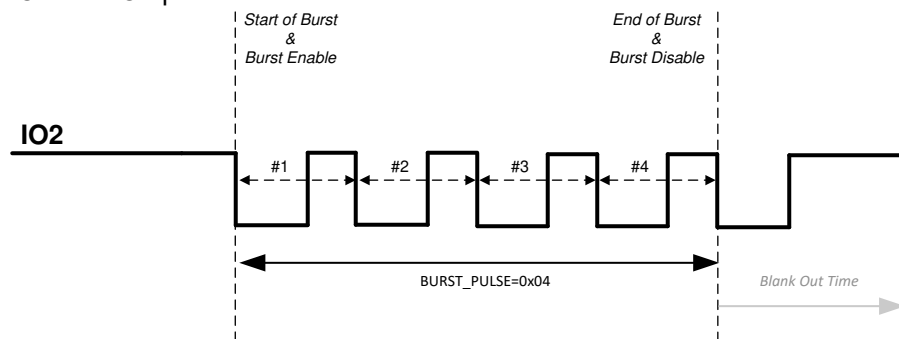

FIG 7-4. IO\_MODE 3 Description
- **IO\_MODE = 3:** In this mode, burst enable and start of burst are both triggered by the falling edge of IO2. TI recommends that IO2 pin is kept pulled up to VDD for this mode. The device then expects a clock at IO2 pin to generate pulses on the OUTA/OUTB pins (see FIG 7-4). The number of pulses are counted by counting falling edge to next falling edge transitions on IO2 once the start of burst is triggered. End of burst sequence is signaled when the number of pulses defined in BURST\\_PULSE are sent. After end of burst, a blank-out timer interval defined by the DRV\\_PLS\\_FLT\\_DT register is started to prevent triggering of a new start of burst in the event if the IO2 pin is still toggling. After the start of burst, the state of OUTA and OUTB pins are determined by IO1 and IO2 pins.